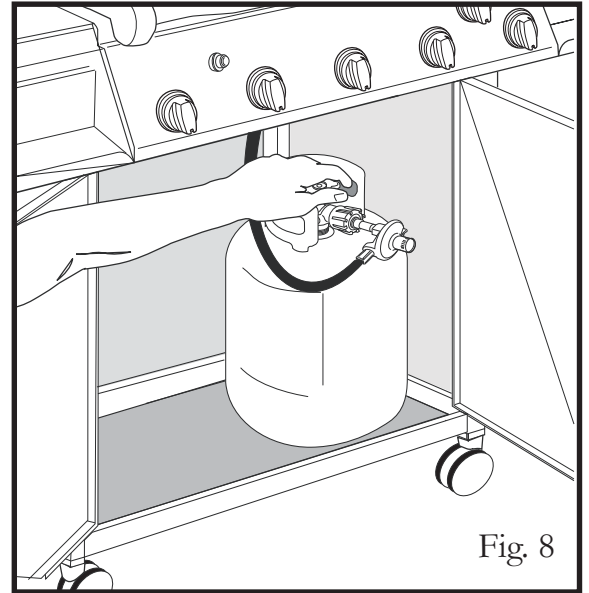
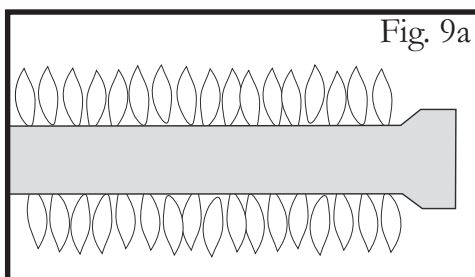

Fig. 8
Fig. 9a
3. Turn on the propane gas supply valve at the tank (1 to 2 turns) or turn on the main natural gas supply valve (see Fig. 8).
**WARNING: IF THE SELECTED BURNER DOES NOT LIGHT**, immediately turn the burner control knob to the OFF position, to prevent gas buildup. Wait five (5) minutes for the gas to clear and then repeat the preceding starting procedure. If the burner will not light when using the Igniter, follow the match lighting instructions (see Page 8).
6. Confirm that the burner is properly lit and that the flame pattern is as desired, (see Figs. 9a, 9b & 9c, for the proper flame patterns). If the flame pattern is other than normal, consult the Troubleshooting Guide on Page 23 for corrective action.
- **WARNING:** IF THE ROTISSERIE BURNER DOES NOT LIGHT, immediately turn the burner control knob to the OFF position, to prevent gas buildup. Wait five (5) minutes for the gas to clear and then repeat the preceding starting procedure. If the burner will not light when using the Igniter, follow the match lighting instructions below.
6. Confirm that the burner is properly lit and that the flame pattern is as desired, (see Figs. 9a, 9b & 9c, for the proper flame patterns). If the flame pattern is other than normal, consult the Troubleshooting Guide on Page 22 for corrective action.